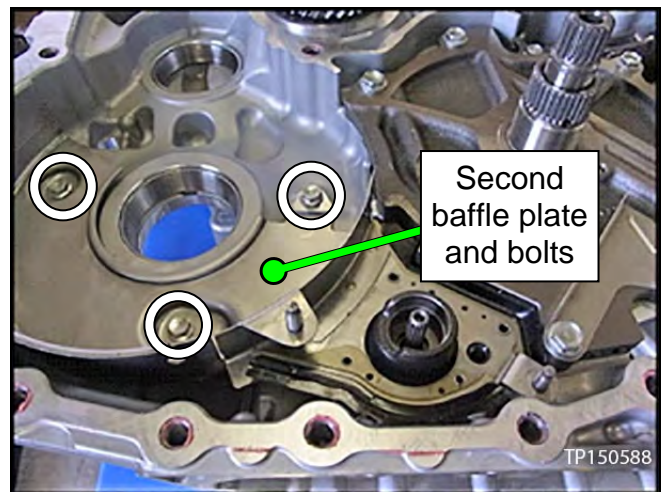

Figure 37
5. Remove the three (3) bolts, and then remove the second baffle plate (see Figure 37).